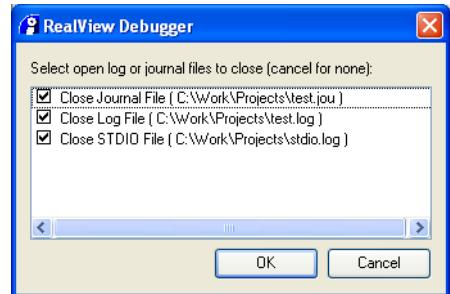

Figure 15-3 Close log and journal files selection box
1. Select **Tools** → **Logs and Journal** → **Close Logs/Journals...** from the Code window main menu to display the List Selection dialog box. This lists the log and journal files that you have opened. Figure 15-3 shows an example: